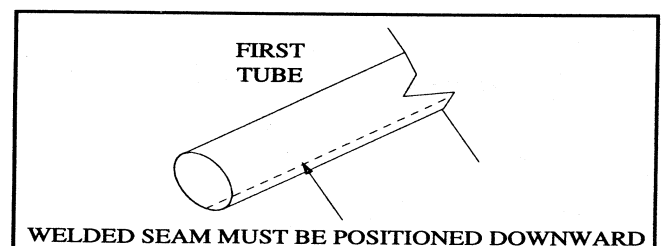
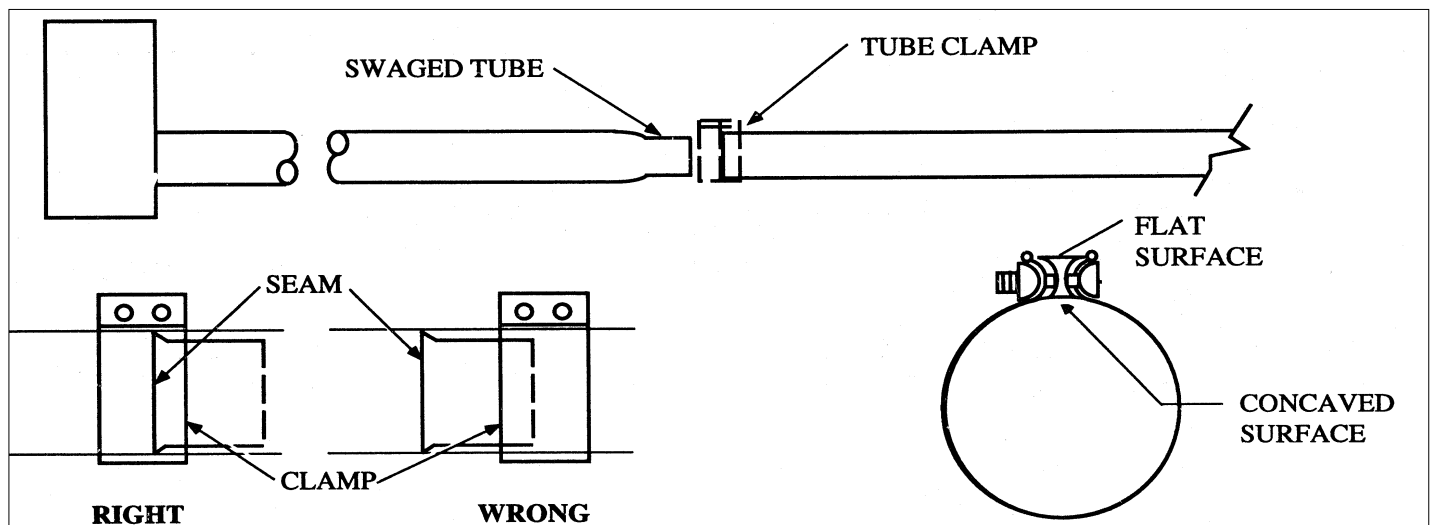

Figure 1-8
Figure 1-9
1. Mount hangers on approximately 10 ft. centers. Slide tubes through hangers with weld seam downward (see Figure 1-8) and fasten with tube clamps (see Figure 1-9). Center clamps on seams.
**NOTE:** The tube clamps provided with the heater are pre-assembled at the factory. If a clamp is dismantled, it is important that upon reassembly the spacer is properly inserted (see Figure 1-9). The spacer's concave surface **must** face the radiant tube. Incorrect spacer placement will result in shearing of the bolt when torqued to the recommended specification (50-70 lb.-ft).